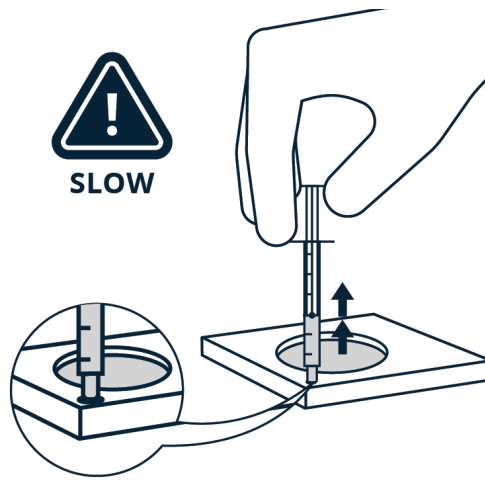

Figure 4. Slowly aspirate 1.0mL - 1.5mL.
- Insert a fresh 5mL syringe into the Outlet Port of the device. Slowly aspirate 1.0mL - 1.5mL of the sperm containing fluid (Figure 4).